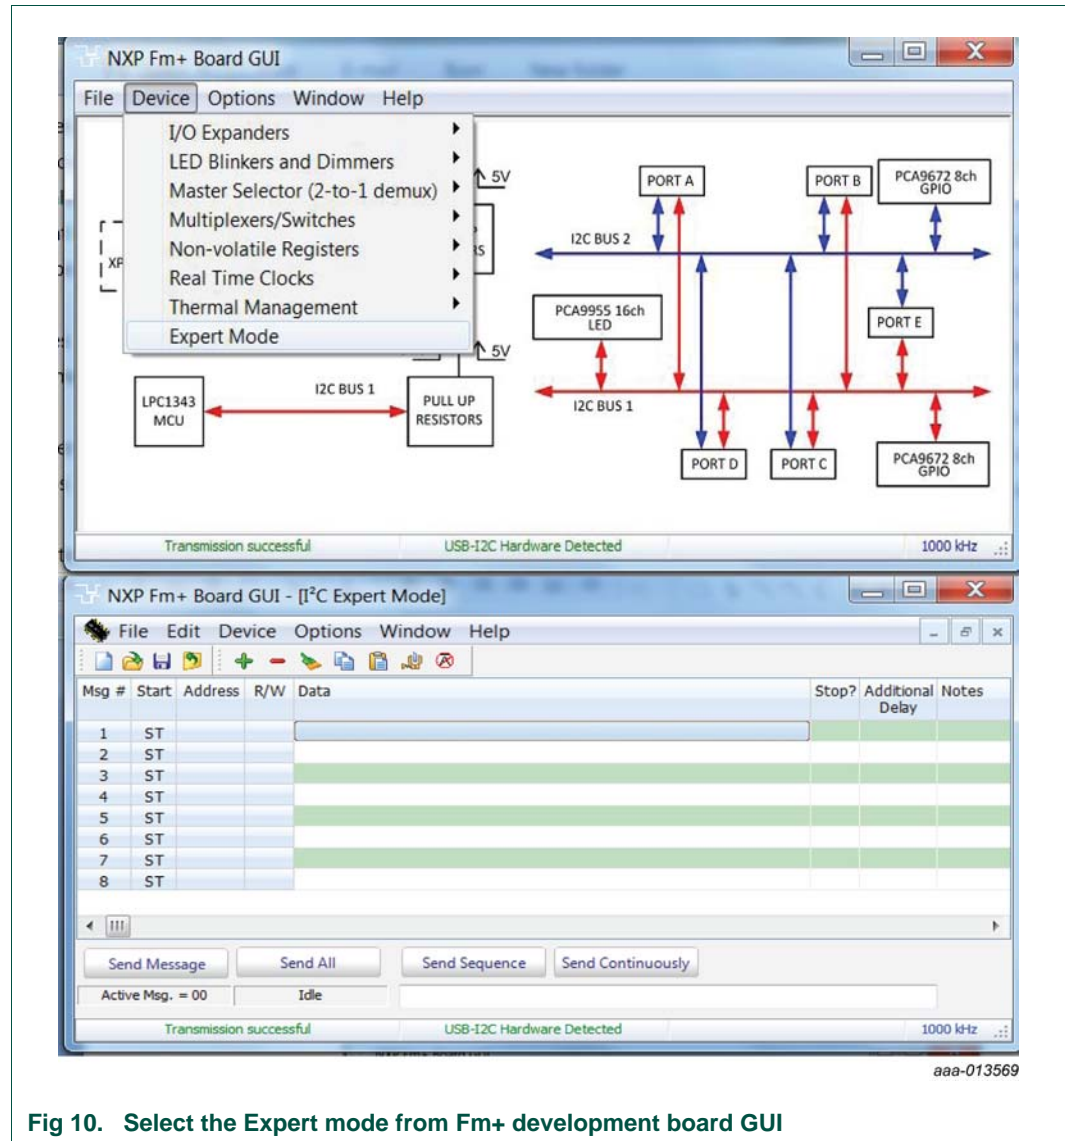

Fig 10. Select the Expert mode from Fm+ development board GUI
The PCA9955A/B is controlled by Fm+ development board GUI in Expert mode, as shown in Figure 10.
Connect the hardware as described in Section 4.3. All jumpers are in default setting and device address is set to 0x02 on J7, J9 and J10 (set AD[0:2] = GND) for PCA9955A/B demo board. When you have correctly installed the software and the demonstration board hardware is connected and recognized by the computer, start the Fm+ development board software. As shown in Figure 10, when the demonstration board hardware is correctly connected to the USB port and the computer recognizes it, the message 'USB-I2C Hardware Detected' is displayed on the bottom of the window.
1. From the 'Device' drop-down menus select 'Expert Modes' as shown in Figure 10.